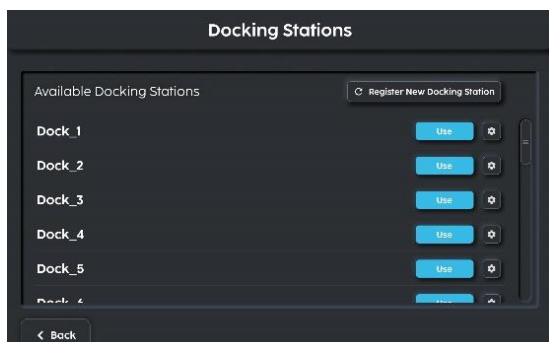

Fig 9
9. From a list select the docking station to use (Fig 9).